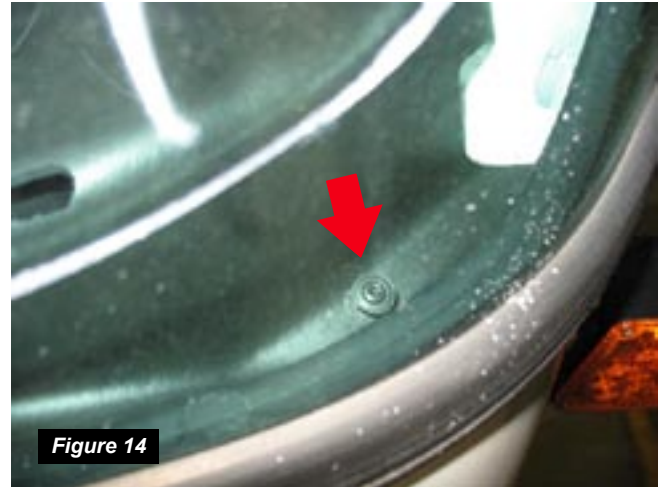

Figure 14
STEP 19: Install the (3) threaded fasteners securing the front edge of the left side of the dashboard (Figure 14).